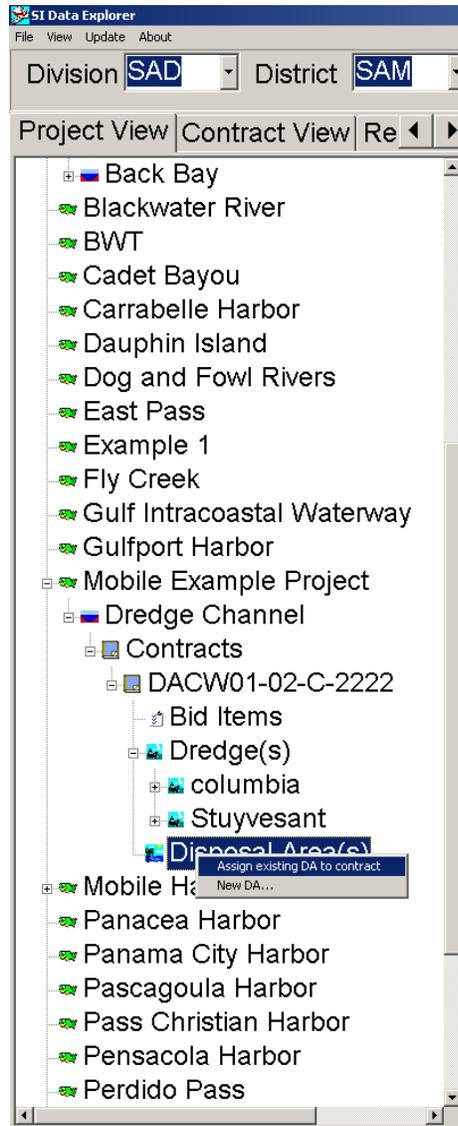

Figure 1.31 Right click on Disposal Areas
1. Right Click on *Disposal Areas* just below the contract number as seen in Figure 1.31 and select *Assign existing DA to contract*.
1. Right click on *Disposal Areas* as in Figure 1.31.